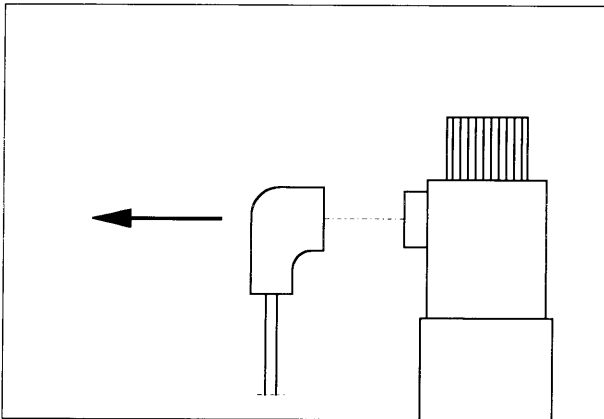

Fig. 58
- b. Disconnect the power cable on magnetic valve (fig. 58).